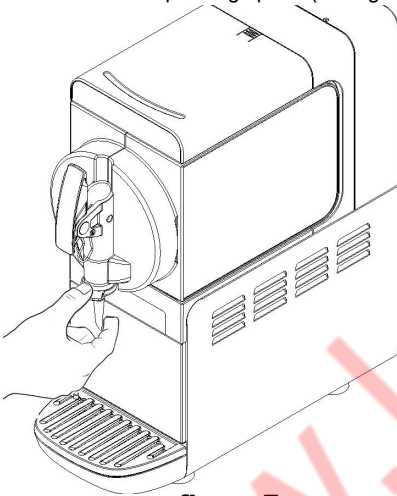

figure 7
- 3 Remove the dispensing spout. (see figure 7)